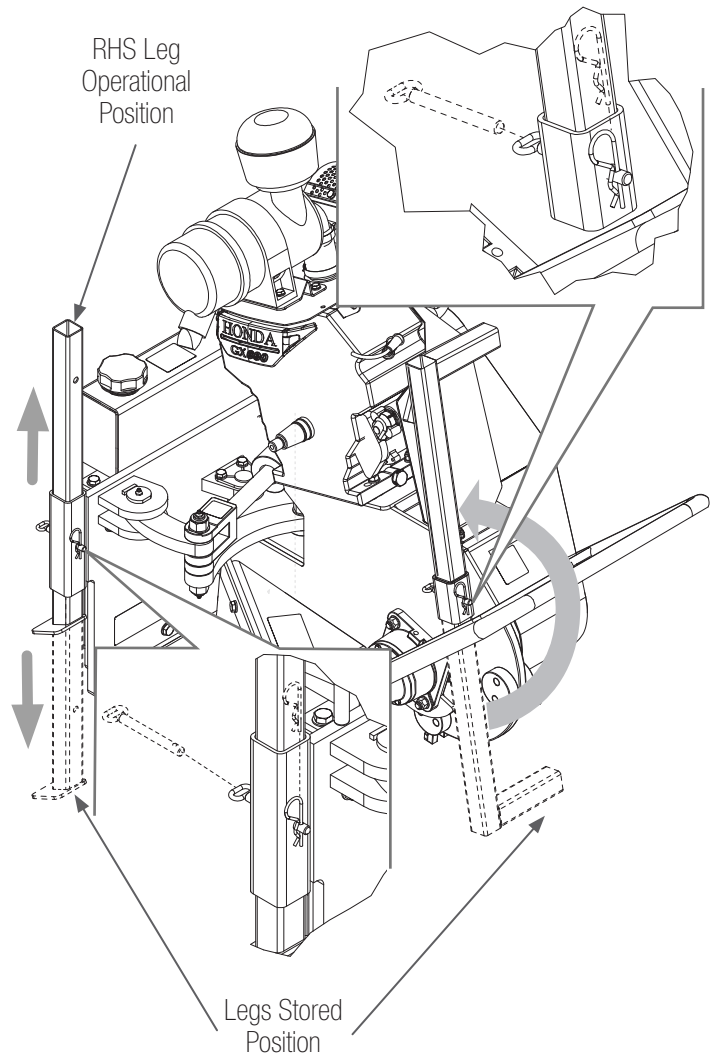

Figure 5. Legs operational and stored positions.
12. Move the front leg and the back legs into the operational position by removing the pin and R Clip holding them in place. Place the front leg on top of the safety guard and slide the rear legs upwards. Once in position secure with pin and R Clip. See Figure 5.